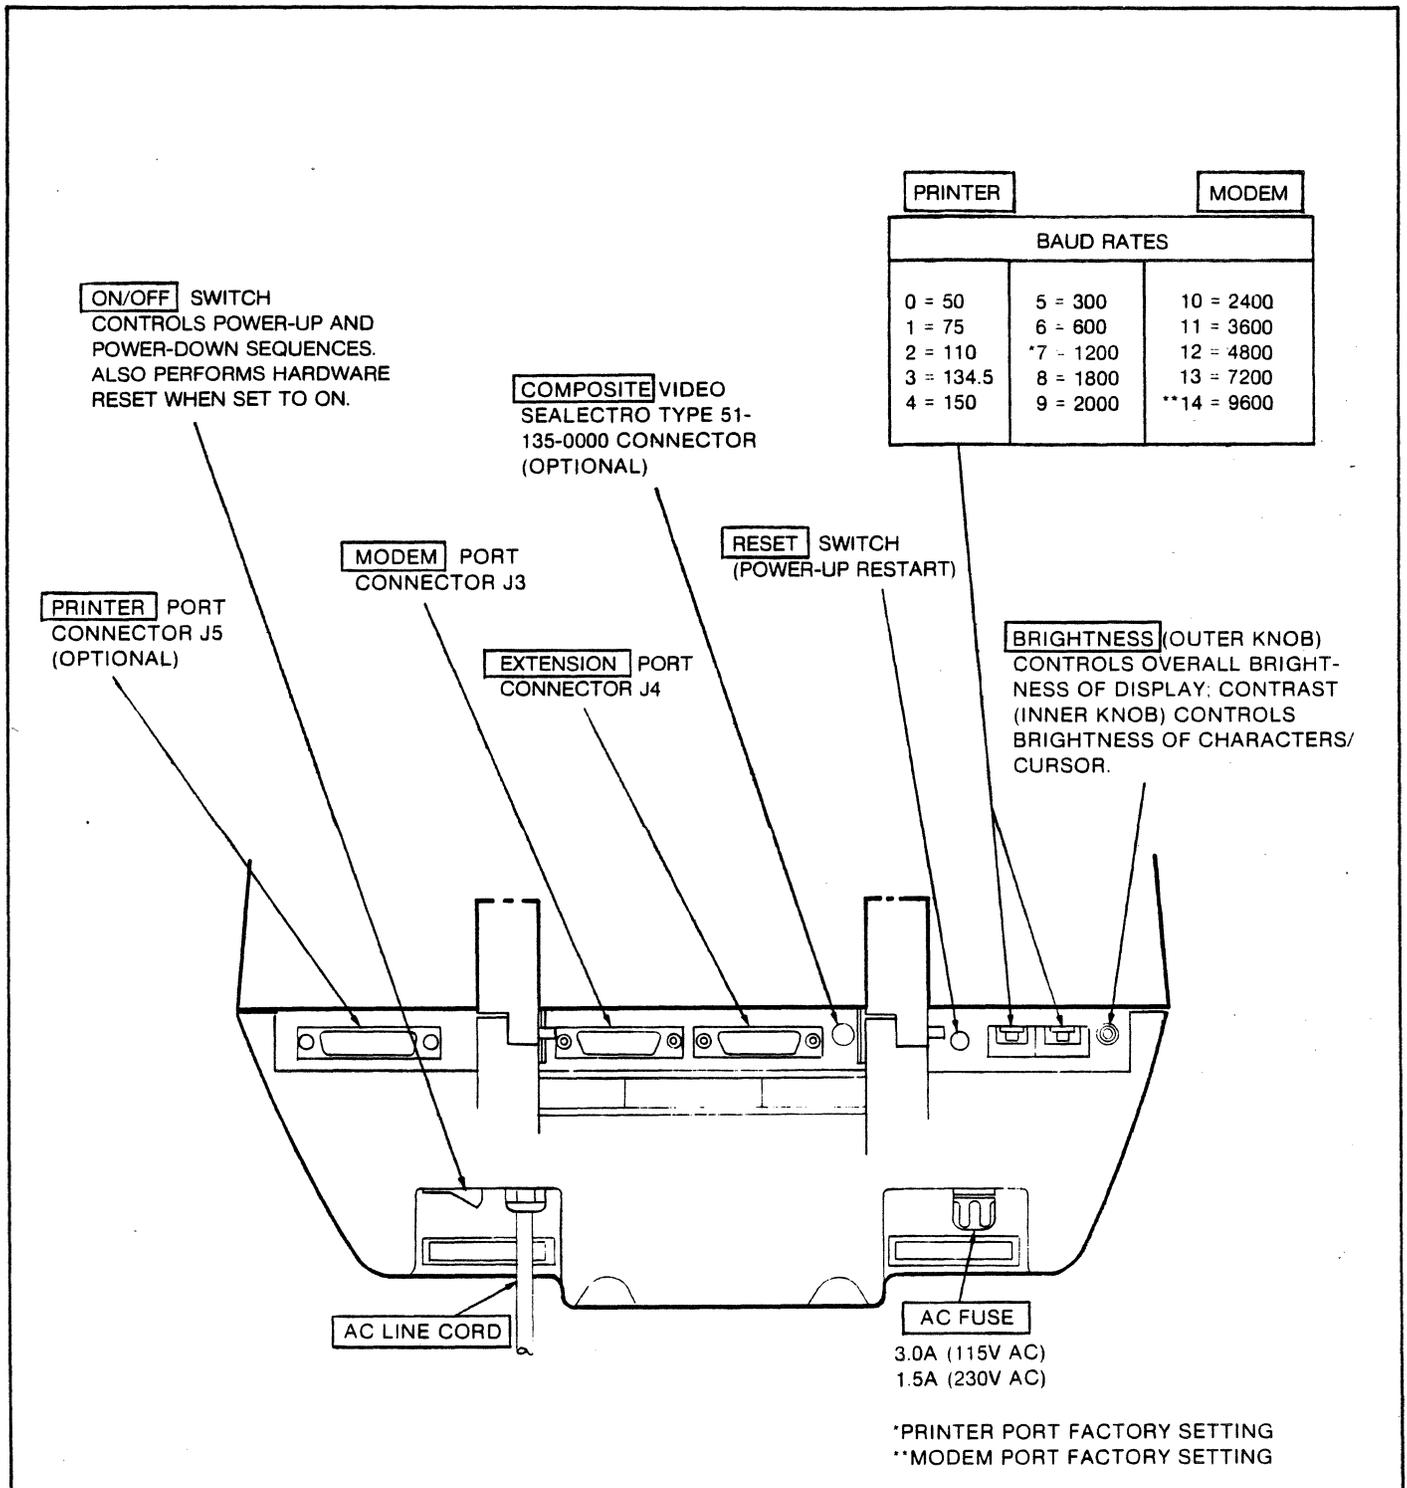

Figure 2-8. ADM-31 Rear Panel Controls
2. Check the ON/OFF switch (figure 2-8) to ensure that it is set to OFF.
4. Set the MODEM and PRINTER (if required) BAUD RATE switches (see figure 2-8) to the desired baud rate.
Refer to figure 2-8 and proceed as follows:
Data which has been written in memory and displayed on the CRT may be transmitted to the host computer either character by character as during Conversation Mode operation, or in message blocks, as during Block Mode operation. Transmission is asynchronous, in one of the word formats established in accordance with figure 3-3, and at a transmission rate determined by the application. Using the MODEM BAUD Rate switch at the rear of the terminal (see figure 2-8), it is possible to select a data transmission rate of 50, 75, 110, 134.5, 150, 300, 600, 1200, 1800, 2000, 2400, 3600, 4800, 7200, or 9600 baud. The standard ADM-31 MODEM port is set for 9600 baud at the factory.